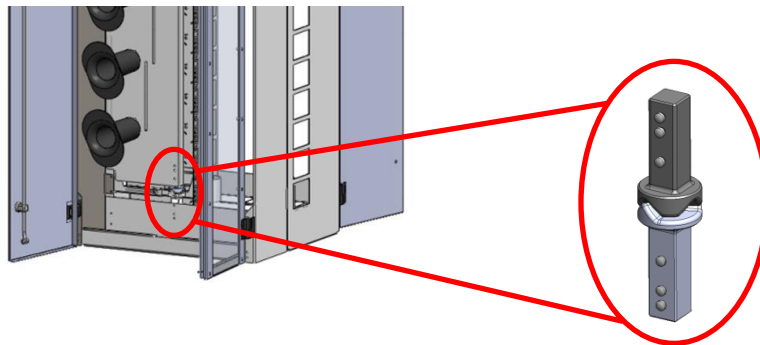

Figure 9
- The hinge on the cable management door is a cam pivoting hinge (Figure 9). To open gently use a cable management spool to pull the door open.
2. Place the Deck over the screws and while supporting with one hand tighten each screw to hand tight torque (Figure 9).